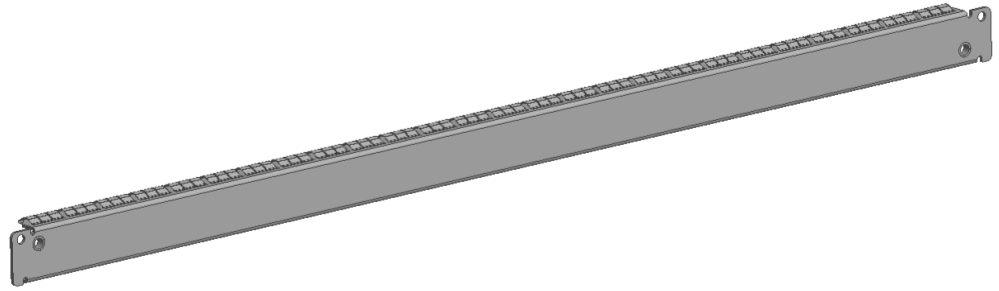

Figure 21 Rear Blanking Panel - for empty rear slots
4. **Rear Slot (3):** Fit a second 1312 Rear Panel module or a blanking plate (see Figure 21) to rear Slot (3).